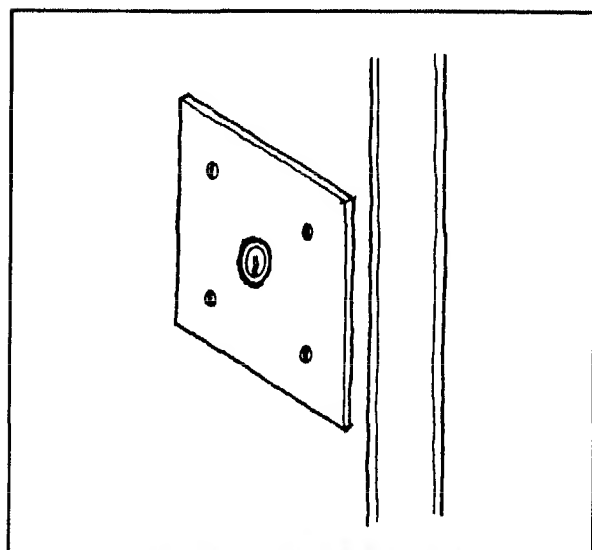

Fig. 26 Escutcheon plate covering cylinder mortise lock.
**Escutcheon plate:** A metal plate mounted to the door, which covers all of the cylinder except the core (the part where the key is inserted), thus protecting the cylinder from attack. The escutcheon plate should be constructed of malleable cast iron and attached to the door with one-way screws. Machine bolts should not be used to mount escutcheon plates on mortise locks, as the increased pressure can have an adverse effect on the mechanism (see Fig. 26).